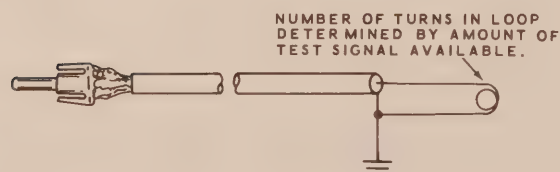

Figure 39
- ( ) For inductive coupling, connect a small loop of wire between the center conductor and shield at the open end of the coaxial cable. See Figure 39. The number of turns you will need in the loop will be determined by the amount of test signal available.